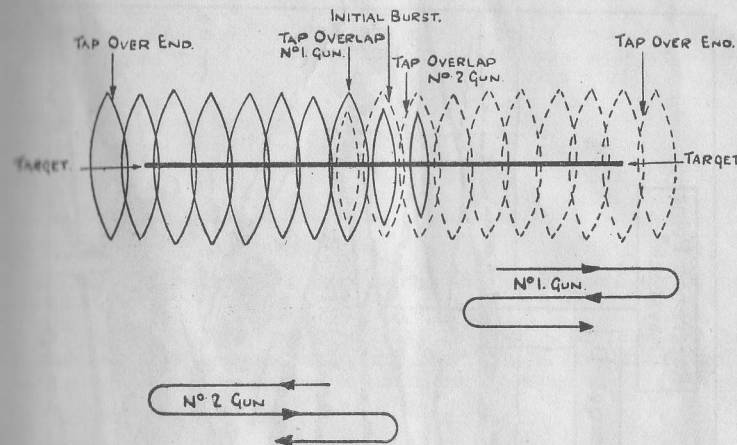

FIG 22
5. Select suitable targets on the landscape target. Prepare blackboard with diagrams as given in Fig 22.
Each gun is then tapped one tap outwards, the line of sight relayed and fired again. This process is continued until the guns reach the end of the target. They are then tapped one tap outside of the ends to cover errors in direction and then traversed back to the centre. To ensure the overlap of the beaten zones at the centre, each gun is tapped one tap over the centre see Fig 22). The line of sight is re-aligned onto the target after each tap.